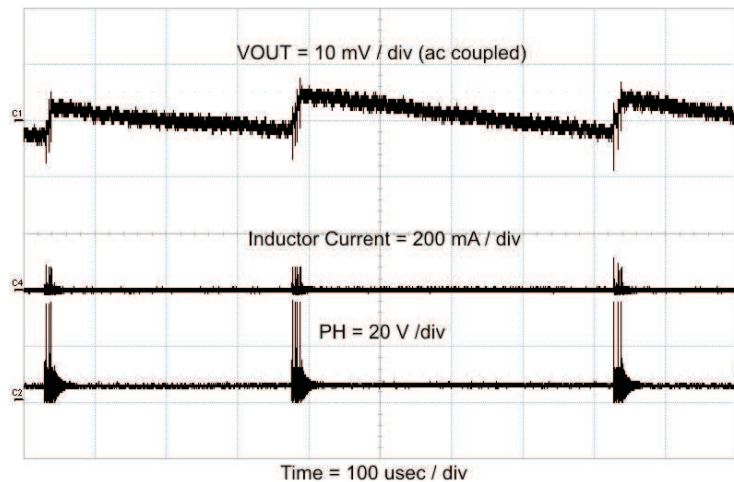

Figure 10. TPS54040EVM-456 Eco-mode™ Operation
Figure 10 shows Eco-mode operation; channel 1(C1) shows the output voltage, whereas channel 2(C2) shows the switching node (PH), and channel 4 (C4) shows the inductor current.